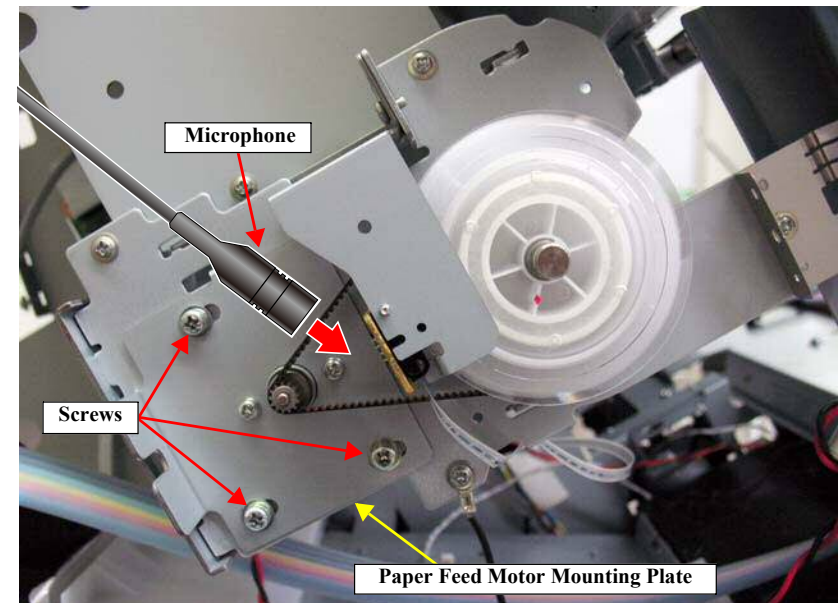

Figure 5-65. PF Timing Belt Tension Adjustment
8. Bring the microphone of the meter closer to the position shown in Figure 5-65 of the Timing Belt.
9. Press [MEASURE] on the Sonic Tension Meter U-507 and flip the Timing Belt with tweezers in the direction of the arrow in Figure 5-65.